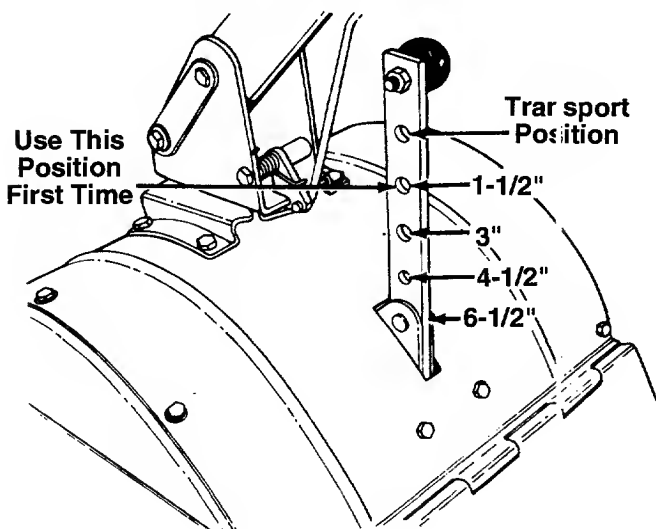
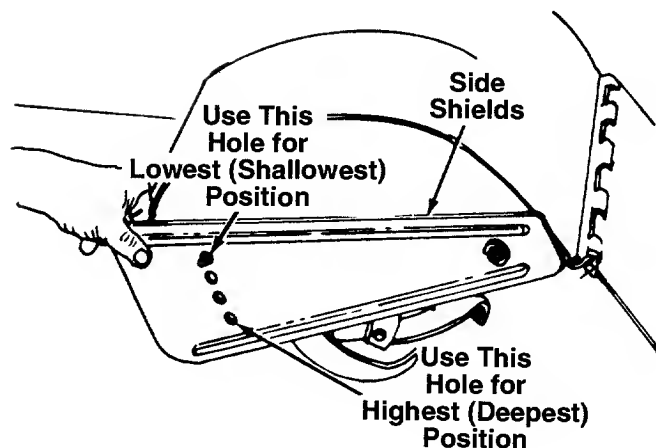

FIGURE 19.
FIGURE 20.
WARNING: When operating the tiller for the first time, use the depth bar setting that gives 1-1/2 inches of tilling depth (second hole from the top). Refer to figure 19.
Tilling depth is controlled by the depth bar which can be adjusted to five different settings. See figure 19. Adjust the side shields as shown in figure 20, as you adjust the depth bar. Be certain spark plug wire is disconnected and grounded against the engine.
1. When using the tiller for the first time, use the second adjustment hole from the top (1-1/2" of tilling depth). See figure 19.
To adjust the depth bar, remove the clevis pin and hairpin clip. See figure 19. Move the depth bar to the desired setting.
To adjust the side shields, remove the hex nut and belleville washer from the front and loosen the rear nut. See figure 20. Pivot the side shield to the desired position. Replace hex nut and belleville washer. Tighten securely.